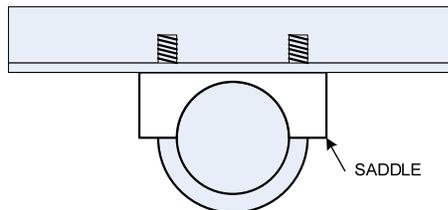

FIGURE 1
1. Bottom plate can be rotated 90° for different mounting configuration if necessary. If clamping to a mast pipe, an appropriate saddle should be used as shown in Figure 1, to avoid bending the enclosure.